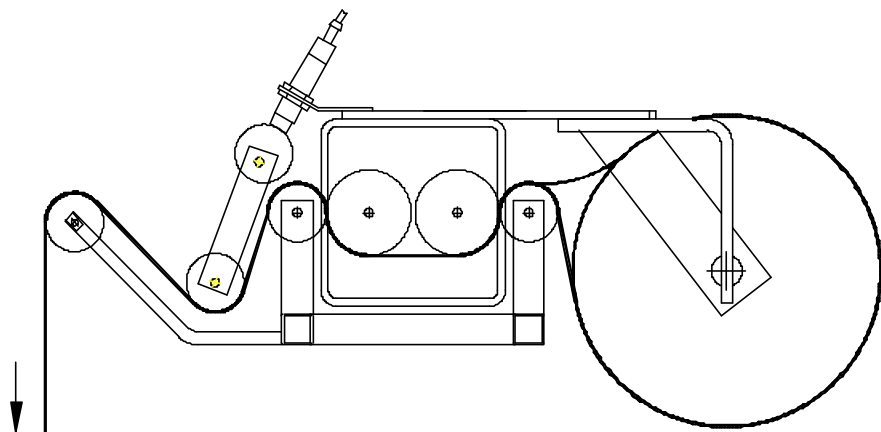

Fig. 2 CLOSED CRADLE
8. When the film feeding is completed (fig. 2) – turn the power switch on.